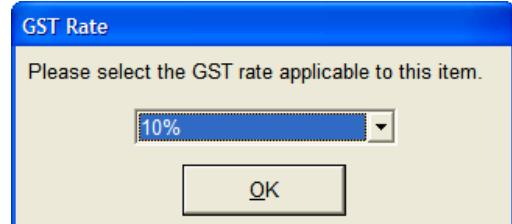

Figure 32
- **F2** – In the instance where a product cannot be located (unlisted item) within the LOTS program and you need to sell it, then F2 may be used at the Point of Sale. This allows you to manually key in a description for the product within the ‘Stock Item’ field and the retail unit price. You will also be prompted to select the rate of GST applicable to the item (as shown in Figure 32), this will be either 10% or 0% and can be selected from the drop down menu.